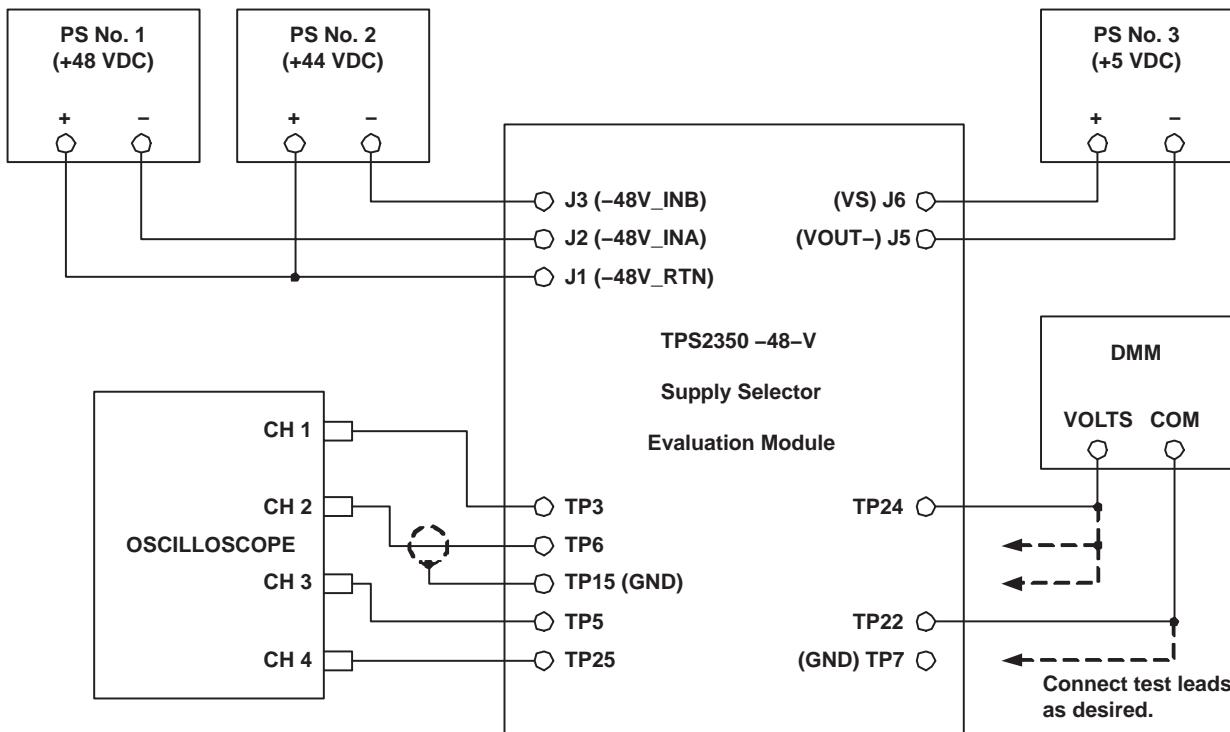

Figure 4. TPS2350 -48-V Supply Selector EVM Equipment Setup
Connect the EVM and test equipment as shown in Figure 4.
Supply connections to the EVM should be made to the banana jacks as shown in Figure 4. The two backplane, 48-V supplies (PS No. 1 and PS No. 2 in Figure 4) connect between J1 and J2 and J1 and J3, respectively. The polarity of the circuit is such that the HI or (+) outputs of the supplies connect to J1, -48V_{RTN}. The LO or (-) jacks connect to J2 (-48V_{INA}) and J3 (-48V_{INB}). PCB header J6 (VS) is used to connect an external pull-up source when using the MOD_EN output of the EVM. This supply is referenced to the VOUT- node at J5.
The EVM can be used to get an illustration of the relationship between current limit, inrush slew rate, load values, and the circuit's fault timing requirements. With DIP switch SW1–1 only closed, the fastest of the preset slew rates is selected, and only the hard-wired timing capacitor C6 is connected to the TPS2350 controller. However, this is sufficient to allow the bulk capacitor C8 to fully charge, from 0 V, across the full range of input supply voltages, down to –80 V. This can be observed by connecting input power as shown in Figure 4, displaying the VOUT– node on an oscilloscope, and enabling the device.